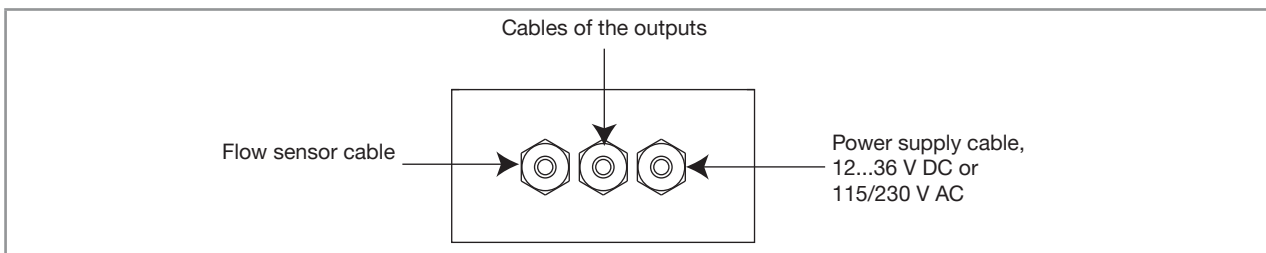

Fig. 45: Using the cable glands
- Insert each cable through a nut then through the cable gland, using the cable glands as shown in Fig. 45.